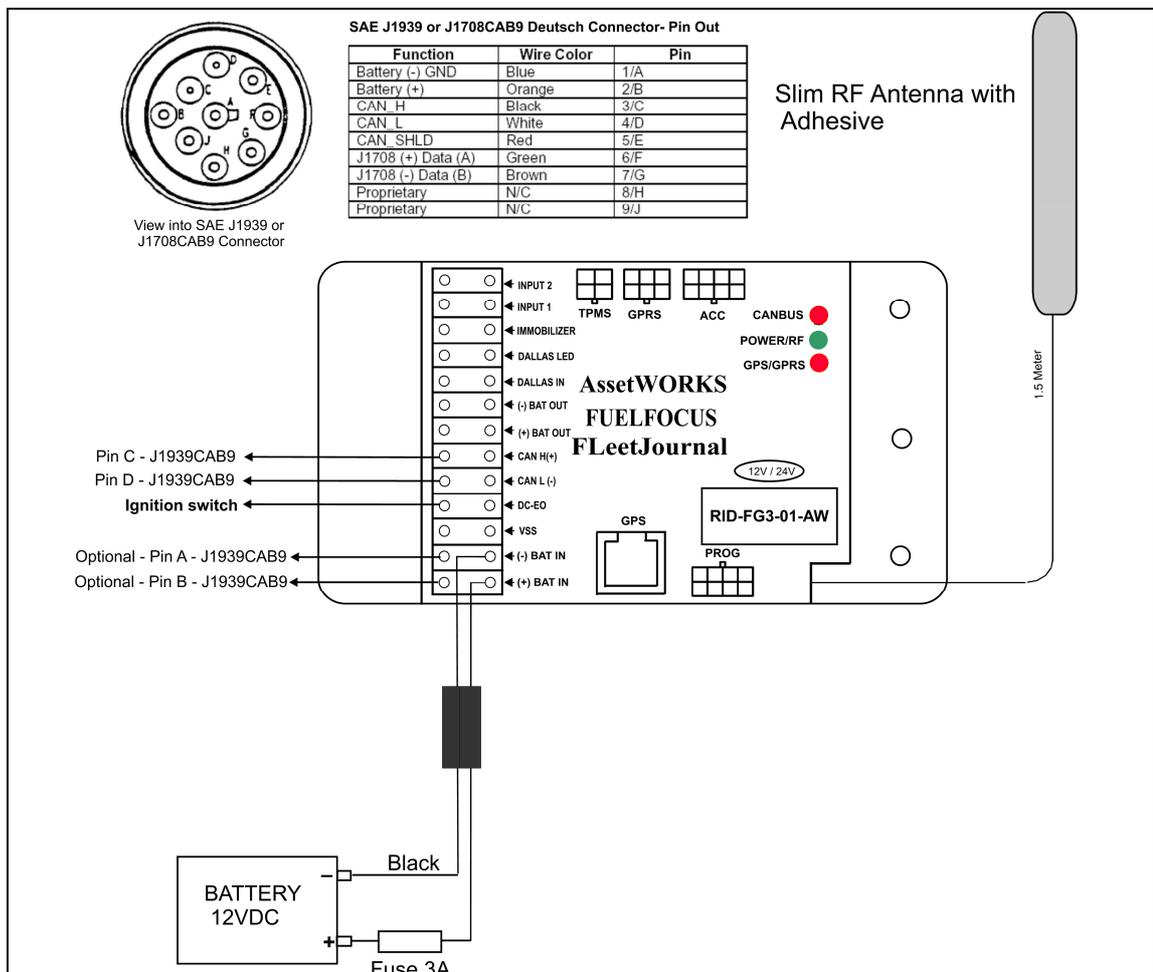
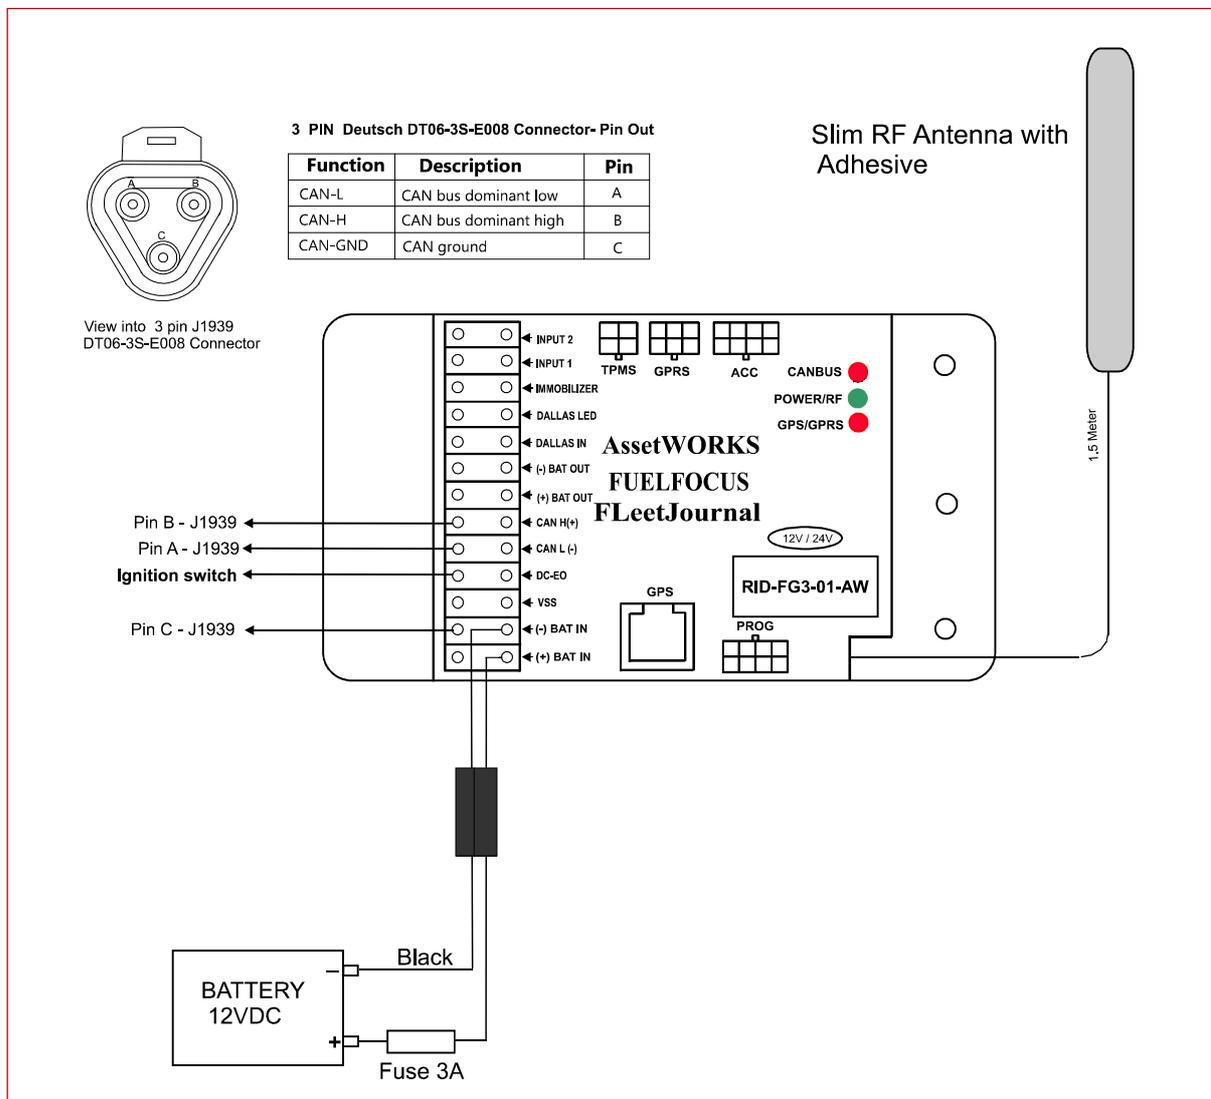

Figure 6: Wiring Diagram for FG3 with CAN Bus Interface for Heavy Duty Vehicles
Figure 7: Wiring Diagram for FG3 with CAN Bus Interface (3-pin connector) for Heavy Duty Vehicles
1. Run a wire from the vehicle ignition switch (or start/stop button on some hybrid models) to the DC-EO terminal on the FG3 (refer to Figure 5: Wiring Diagram for FG3 with CAN Bus Interface for Light Duty Vehicles, Figure 6: Wiring Diagram for FG3 with CAN Bus Interface for Heavy Duty Vehicles Figure 7: Wiring Diagram for FG3 with CAN Bus Interface (3-pin connector) for Heavy Duty Vehicles)